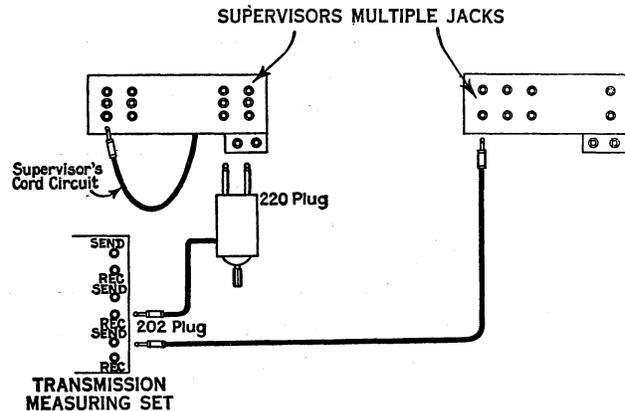

Figure 3
- 3.02 Figure 3 shows schematically the connections for the test.